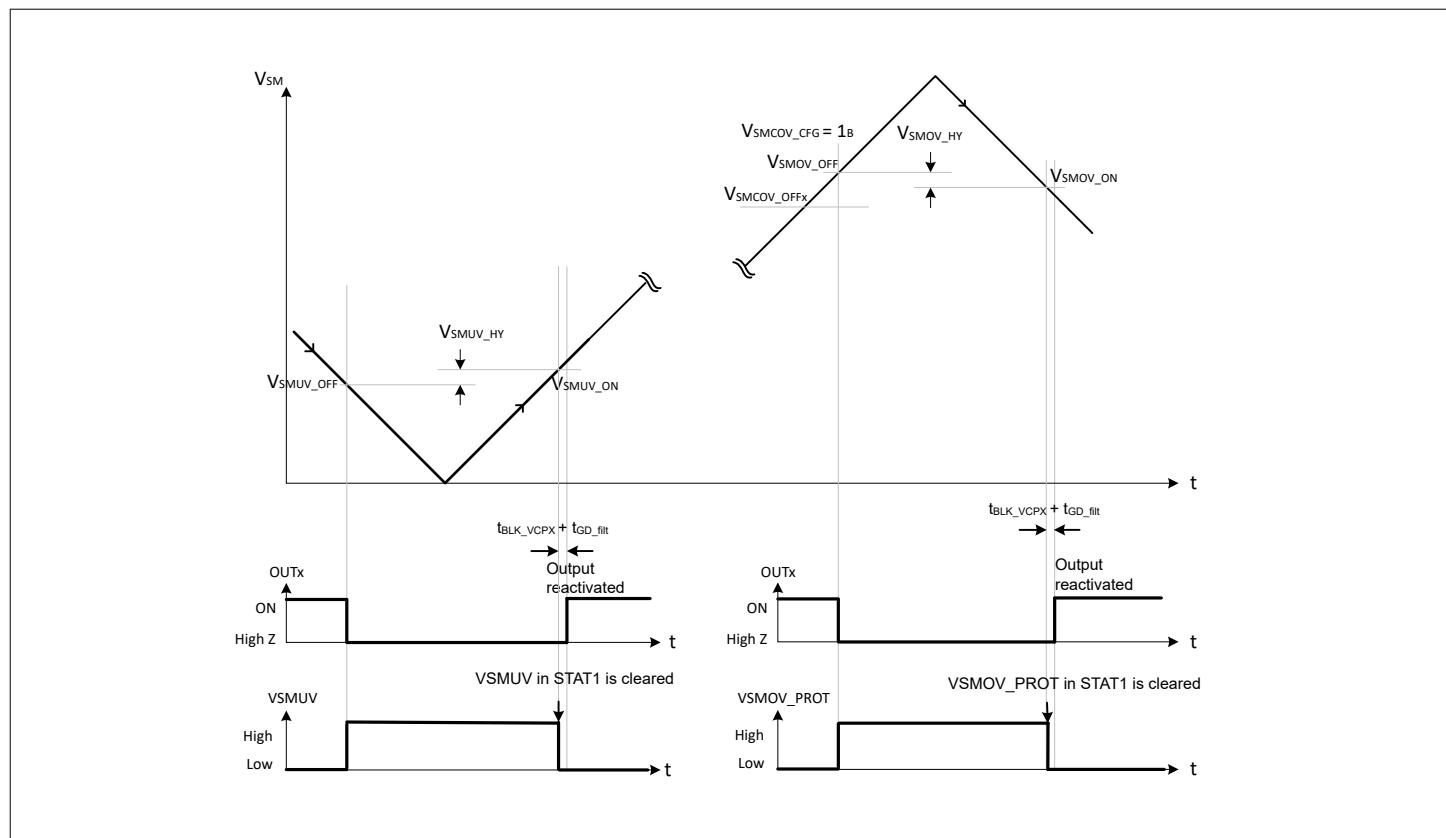
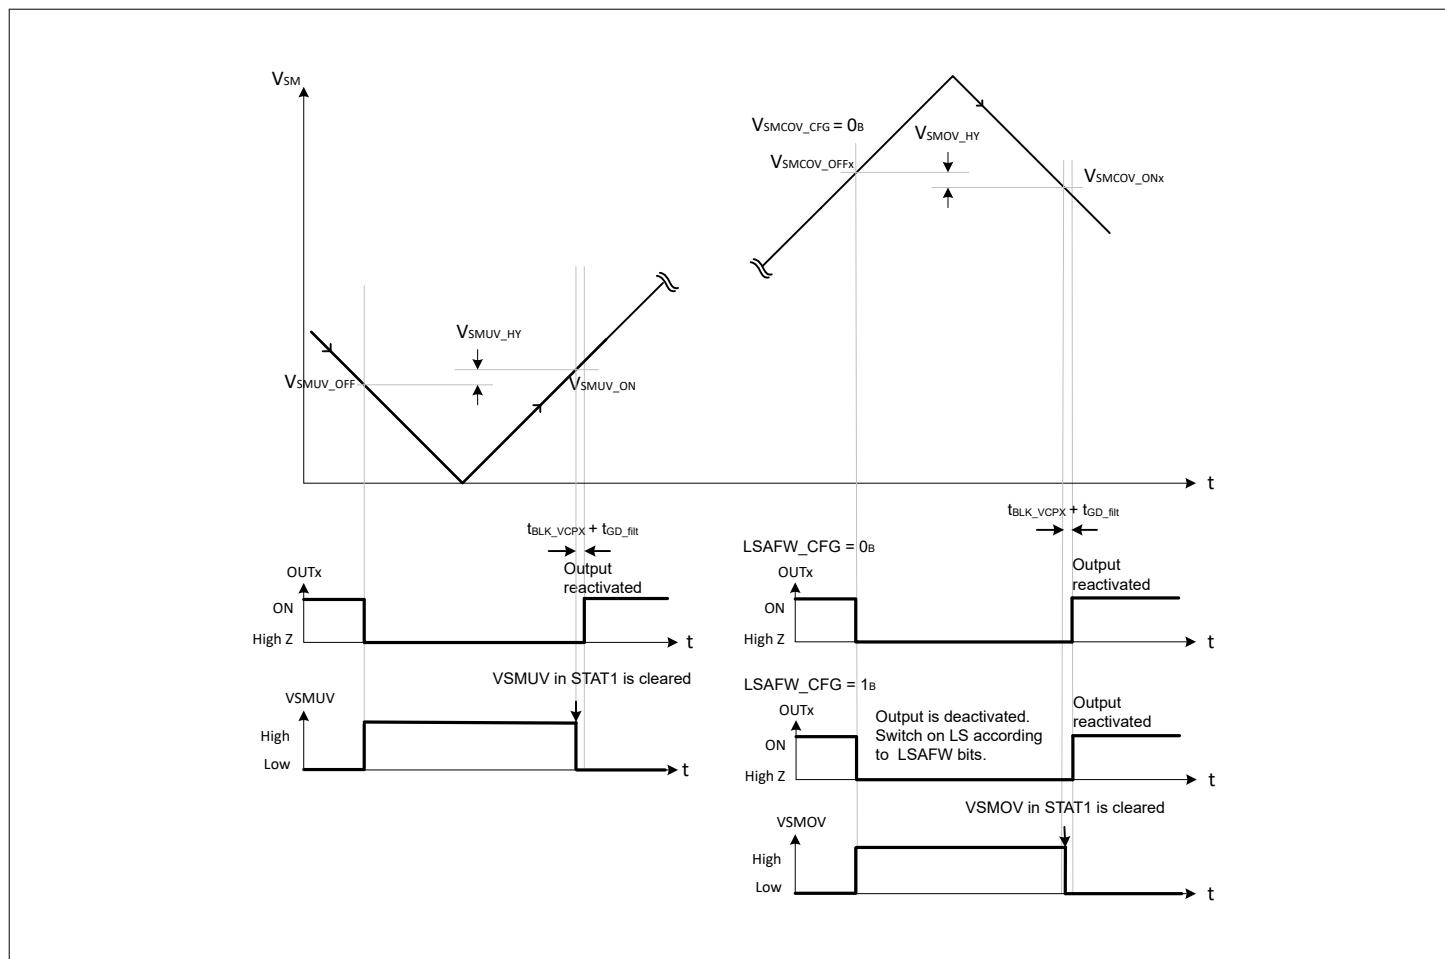

Figure 9 **VSM monitoring**
Figure 10 **Configurable VSM monitoring**
If VSM rises above V_{SMUV_ONx} as shown in Figure 9, after clearing the VSMUV bit the device resumes normal operation when t_{BLK_VCPx} and t_{GD_filt} expire.
- $VSM > V_{SMUV_ONx}$ (see Figure 9)
If VSM drops below $V_{SMOV_ON} / V_{SMCOV_ONx}$ as shown in Figure 9 and Figure 10, after clearing VSMOV_PROT bit and VSMOV bit the device will resume normal operation when t_{BLK_VCPX} and t_{GD_filt} expires.
- $VSM < V_{SMOV_ON}$ or $VSM < V_{SMCOV_ONx}$ when VSMOV_CFG is 0_B (see Figure 9 and Figure 10)